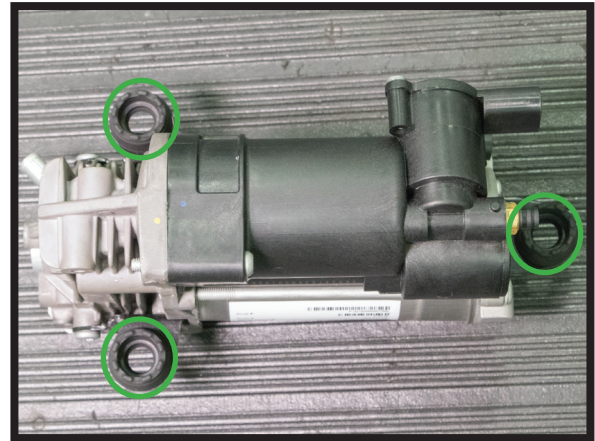

FIGURE 7
2. INSTALL THE SAVED FACTORY ISOLATORS ONTO THE COMPRESSOR. (FIGURE 7)